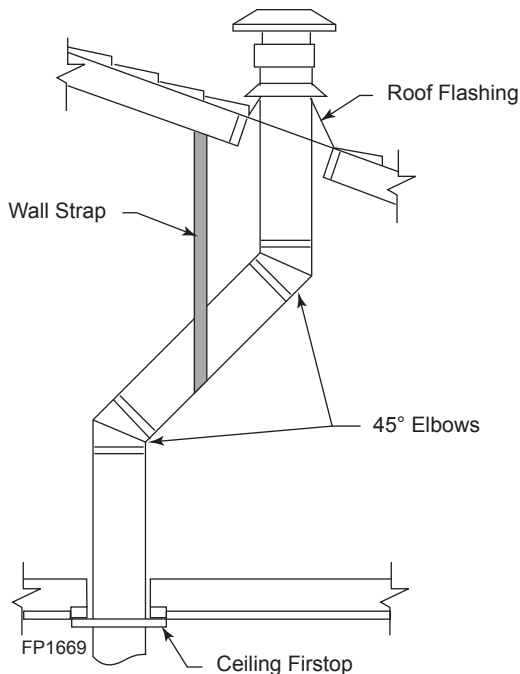

**Figure 23 -
1. Determine the route your vertical venting will take. If ceiling joist, roof rafters or other framing will obstruct the venting system, consider an offset. Refer to Figure 23 to avoid cutting load bearing members.